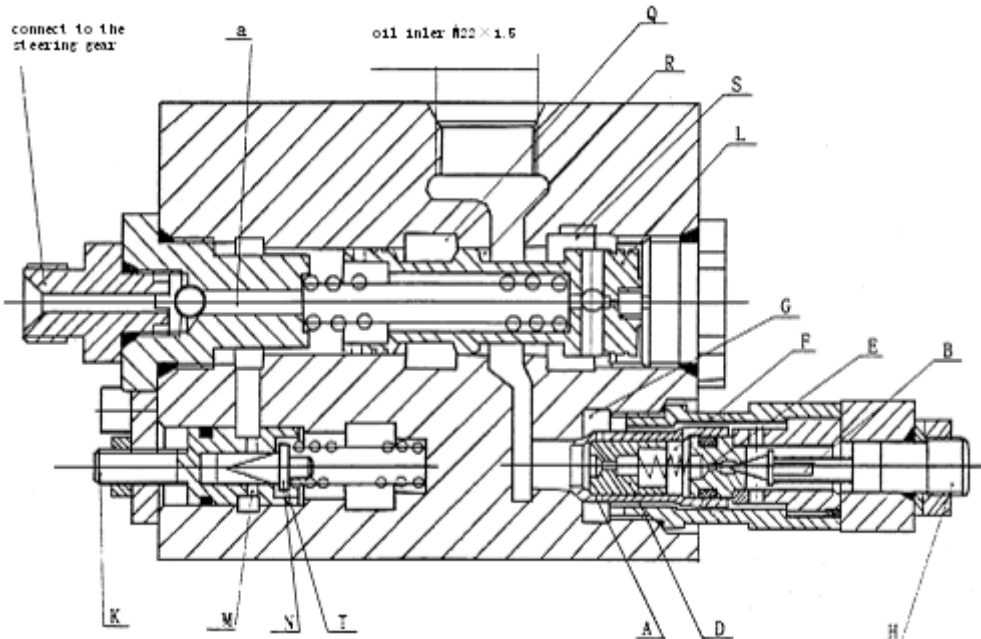

Fig. 9.6 Main relief valve and diverter relief valve
9.3.2 See the figure 9.6 for structure of the main relief valve and the diverter relief valve